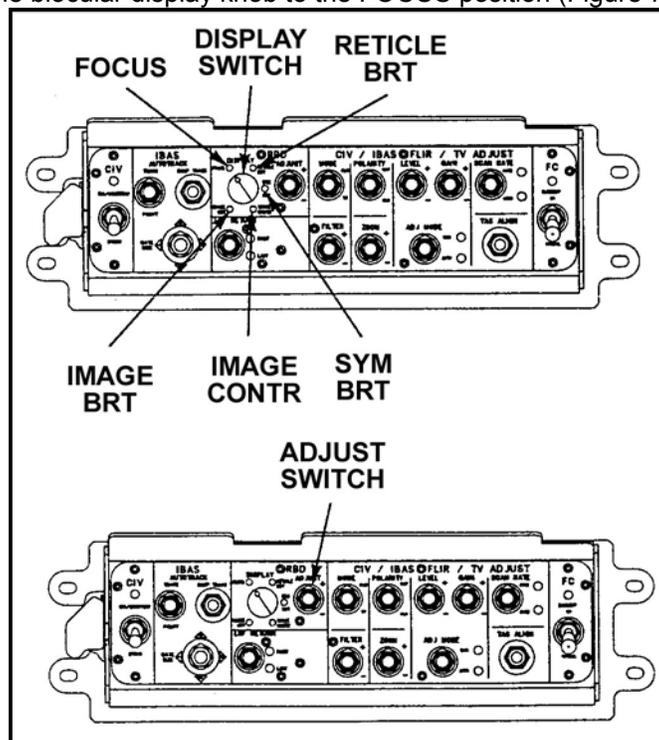

Figure 7. Biocular display knob.
- (2) Ensure the manual indicator light is still lit.
(3) Move the LEVEL toggle switch up or down to adjust the LEVEL in the sight.
(4) Observe the momentary level adjustment bar on the left side of the screen in the sight.
(5) Move the GAIN toggle switch up or down to adjust the GAIN in the sight.
(6) Observe the momentary gain adjustment bar on the left side of the screen in the sight.
(7) Rotate the biocular display knob to the FOCUS position (Figure 7).
- (13) Rotate the biocular display knob to image brightness (IMAGE BRT).
- (14) Move the adjust switch up and down until the sight has sufficient image brightness.
- (15) Observe the momentary gray scale on the right side of the screen in the sight.
- (16) Repeat, if necessary, steps (1) through (15) until sight is adjusted.
- h. Adjust the reticle brightness (refer to Figure 7).
- (1) Rotate the biocular display knob to reticle brightness (RETICLE BRT).
- (2) Move the adjust switch up and down until the reticle has sufficient brightness.
- (3) Observe the reticle through the sight.